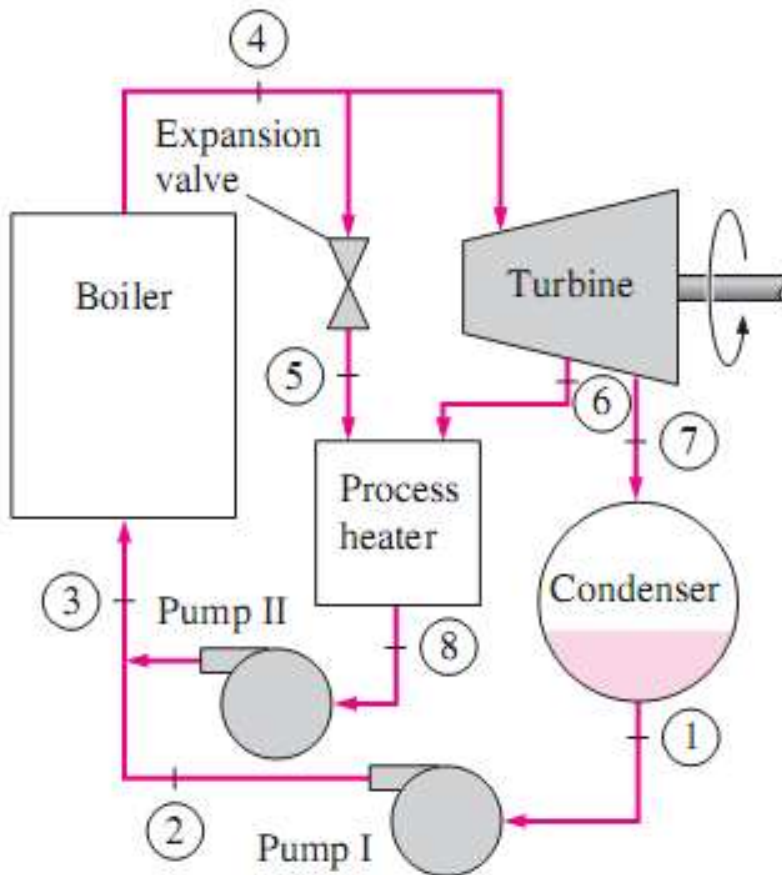

FIGURE 10-22
- The schematic of a more practical (but more complex) cogeneration plant is shown in Fig. 10-22.